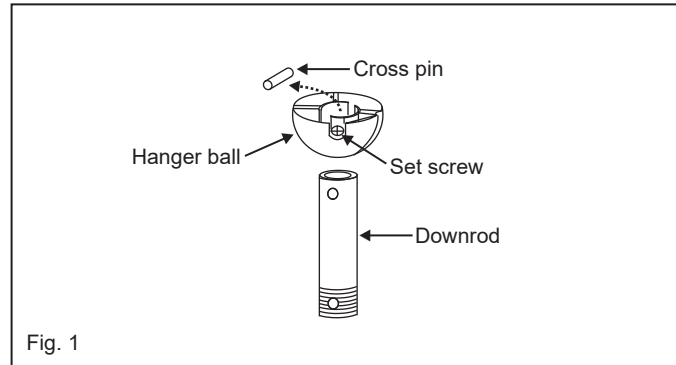

Fig. 1
- 1 Remove ball from downrod by loosening set screw in the side of the ball. Slide ball down and remove ball pin; remove ball. (Fig. 1)
1. Insert the receiver into the ceiling mounting bracket with the flat side of the receiver facing the ceiling. (Fig. 1) For best performance, make sure the Black Antenna and WIFI Antenna, on the end of the receiver, remains extended and not tangled with any of the electrical wires.
- 1 Remove one of the three screws on the mounting hub located on the fan motor. Loosen the other 2 screws. (Do not remove) (Fig. 1)
- 1 Select a desired location. Use the wall plate to mark the location of the mounting holes. Plastic wall anchors or mounting screws are needed for this application. (Fig. 1)